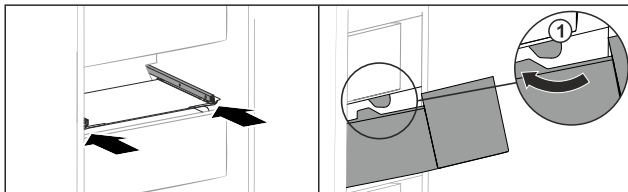

Fig. 156
- ▶ Guide drawer around the stoppers Fig. 156 (1).